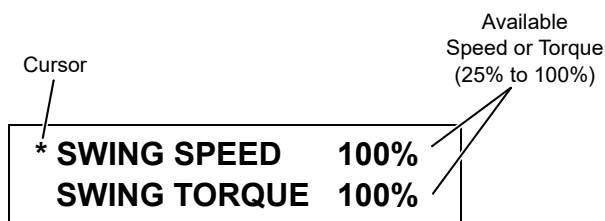

FIGURE 3-17
- b. Scroll up at least one screen, release key, and scroll up or down through diagnostic screens until swing speed/swing torque screen appears (Figure 3-17).